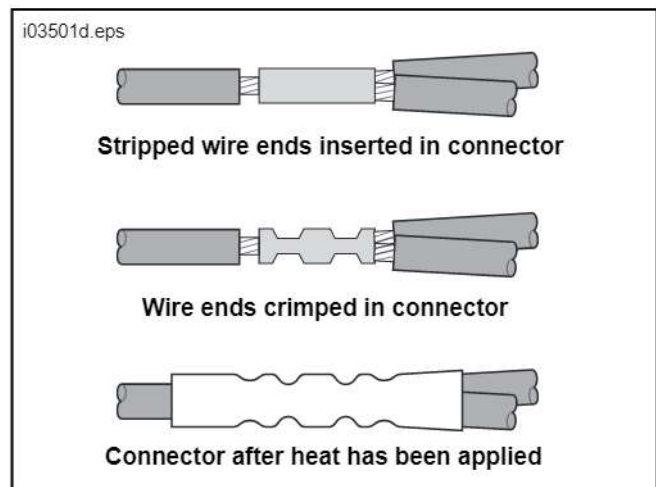

Figure 16. Installing Butt Connectors
17. Cut the black wire and red wire about 2 inches (51 mm) from the socket housing. Remove about 3/8 in. (10 mm) of insulation from the four cut ends. Slide a piece of heat-shrink tubing (16) from the kit over the ends of the wires coming from the socket housing.
18. See Figure 16, and the BUTT SPLICE CONNECTORS section of the Service Manual. Bring the black wire from the socket housing to one end of a butt-splice electrical connector (15) from the kit, and crimp with a Crimp Tool, Part No. H-D 38125-8.
24. See Figure 16, and BUTT SPLICE CONNECTORS in the Service Manual. Insert the red wire from each lighted screw into one end of a butt-splice electrical connector (15) from the kit, and crimp with the Crimp Tool.
28. Use tie straps (14) from the kit as needed to secure the wiring under the fender.